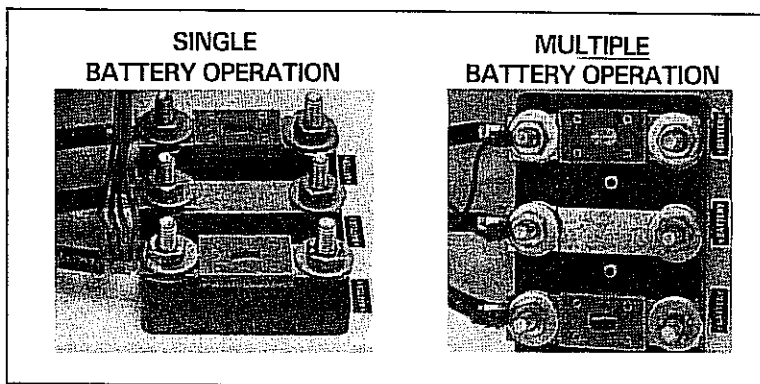

Figure 7. DC Sensing Wires.
4. Locate the four red DC sensing wires, which are attached to a single "+BATTERY" stud. (See Figure 7.) If only one battery is to be charged, this should be the stud to which the battery is connected. If two batteries are to be charged, disconnect one of these red wires and attach to another "+BATTERY" stud where the second battery is connected. If three batteries are to be charged, shift two red wires to other "+BATTERY" studs. If a fourth battery is to be charged (available as an option on certain Sentry models), shift three red wires as shown.